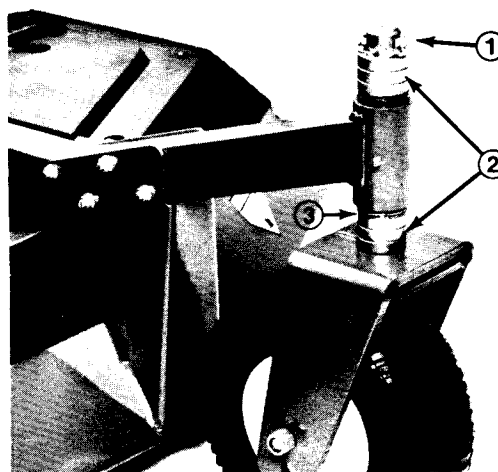

Figure 3
4. On all remaining castor wheel assemblies, remove lynch pin from castor fork shafts (Fig. 3). Remove castor fork shaft and spacer assembly from the castor arm (Fig. 3). Place spacers onto castor spindle to desired height-of-cut setting and install castor fork shaft in arm (Fig.). Install remaining spacers onto shaft and secure assemblies with the lynch pin (Fig. 3). Washers must remain on same side of castor arm before and after height-of cut change.
NOTE: Install lynch pins with wire loop facing to the rear. This will help prevent the lynch pin from catching on branches or brush and coming off (Fig. 3).